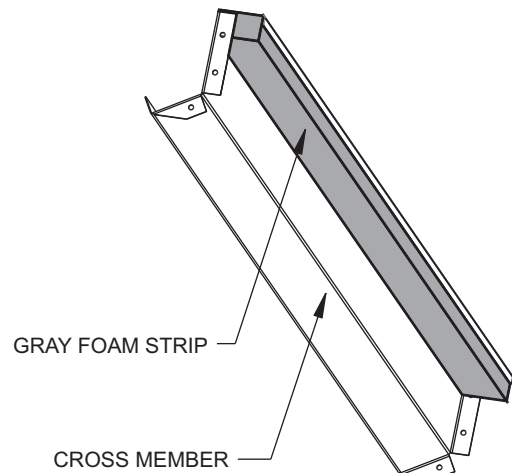

Fig. 25 — Adding Foam Strip to Cross Member
2. Add gray foam strip (provided) to cross members on bottom tray. See Fig. 25.